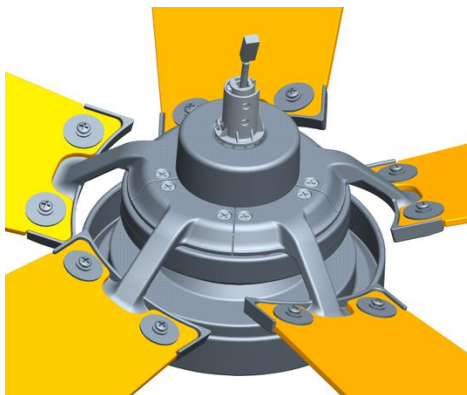

Fig 4.2
4.2. Install the 5 blade brackets with the installed blades onto the corresponding mounting holes of the motor as shown in Fig 4.2.